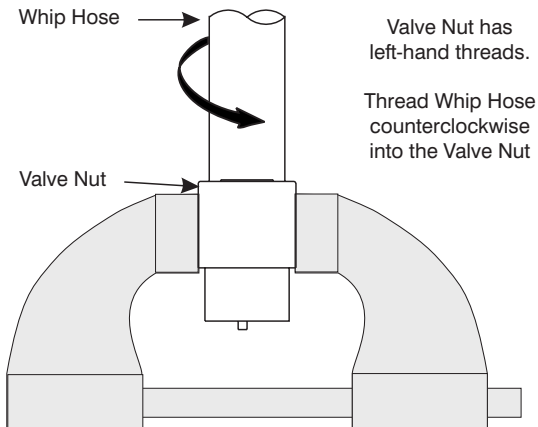

Figure 11-19. Valve Nut and Hose in Vise
2. With its larger internal bore (hose end) facing up, clamp the Valve Nut (12) in a vise, as shown in Figure 11-19.